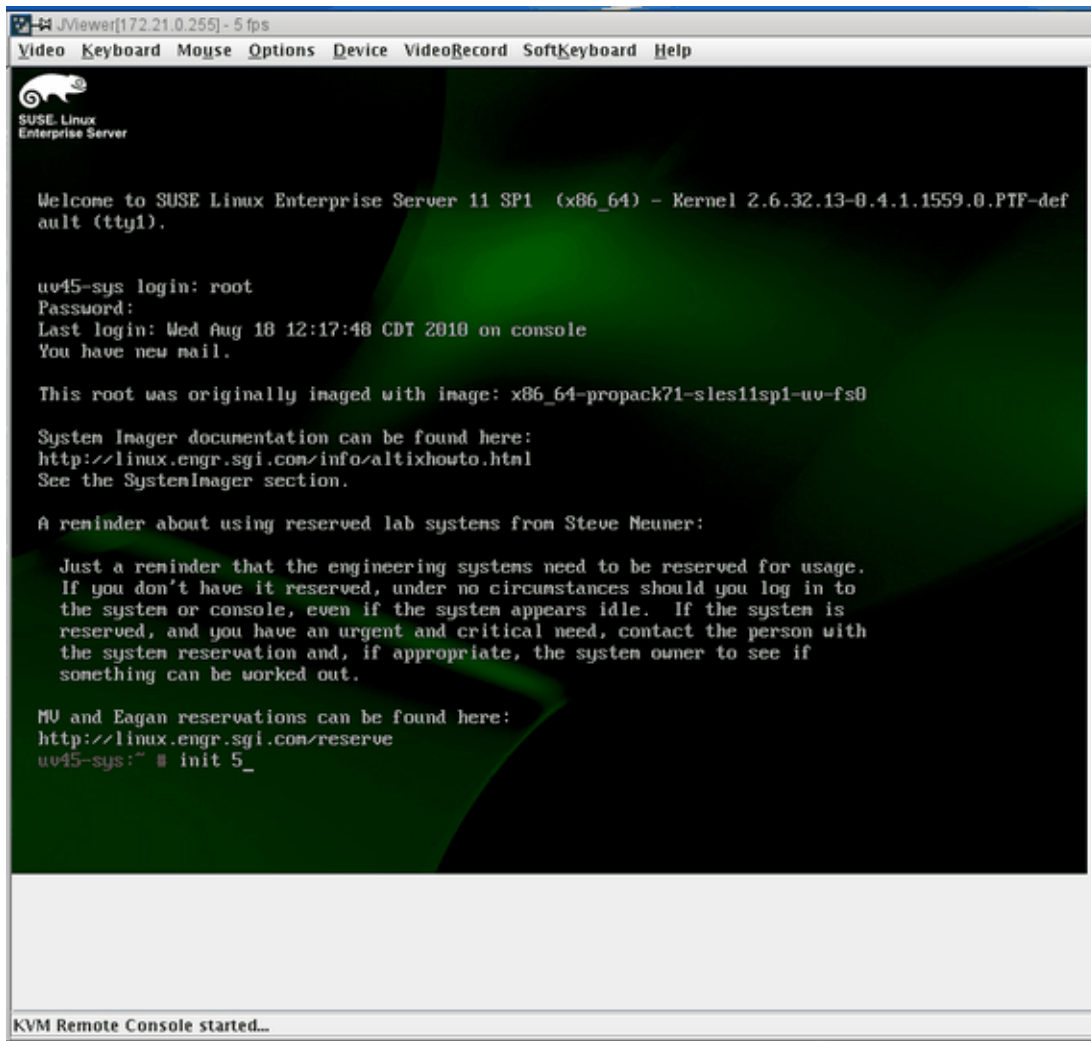

Figure 3-10 JViewer Operating System Login Screen
13. The operating system login screen appears. At the prompt enter **init 5**, as shown in Figure 3-10 on page 47.